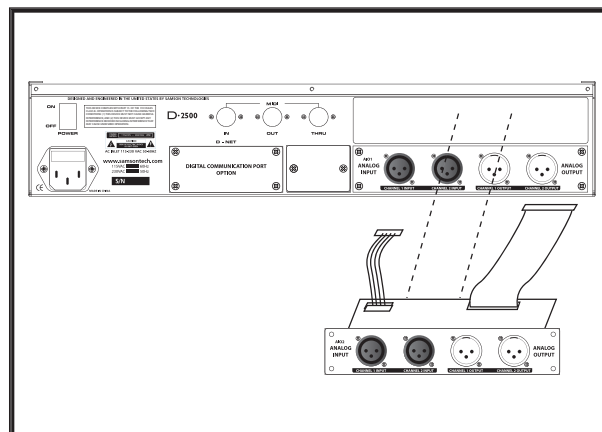

Figure 2
3. Thread the two ribbon wires through the slot. Install the panel into the chassis using the four screws removed in step 2. (See Figure 2)